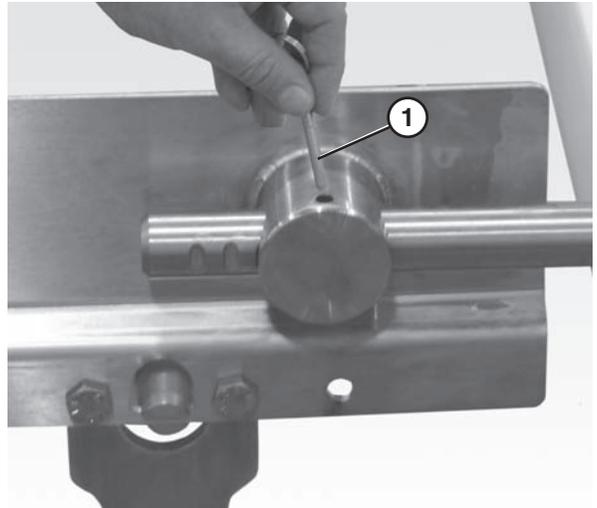

Figure 53
1. Remove the pull pins (**Figure 53, item 1**) on the tension end of the conveyor to release tension on the belt.